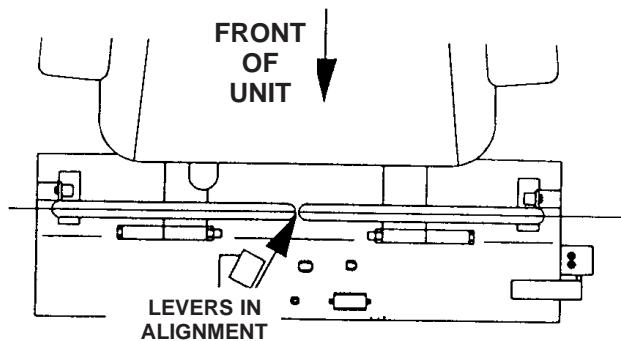

Figure 4
5. If the ends of the motion control levers hit against each other while they are in the drive position (Fig. 4) (the levers are rotated in as far as possible), make adjustments by moving the levers outward to the neutral lock position and carefully bend them outward. Move them back to the drive position and check for clearance. Repeat if necessary.